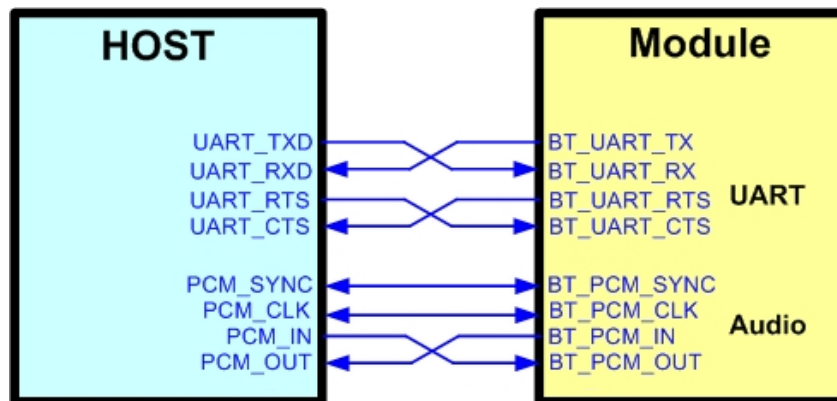

Figure3. Bluetooth verification connection interface to Host UART
- ❖ Refer to Figure3 UART pin definition connects the J1 interface of AP6XXX evaluation board to Host UART control interface.